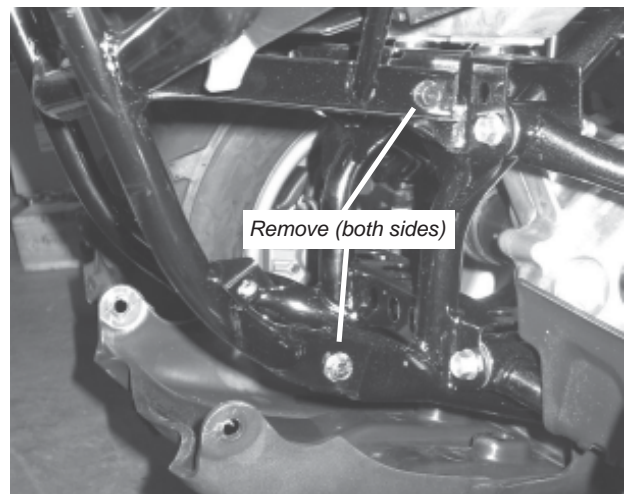

Figure 6 Remove Bumper Bolts
- Remove the four remaining bumper bolts that attach the bumper to the vehicle frame, figure 6. Remove the bumper from the vehicle at this time.